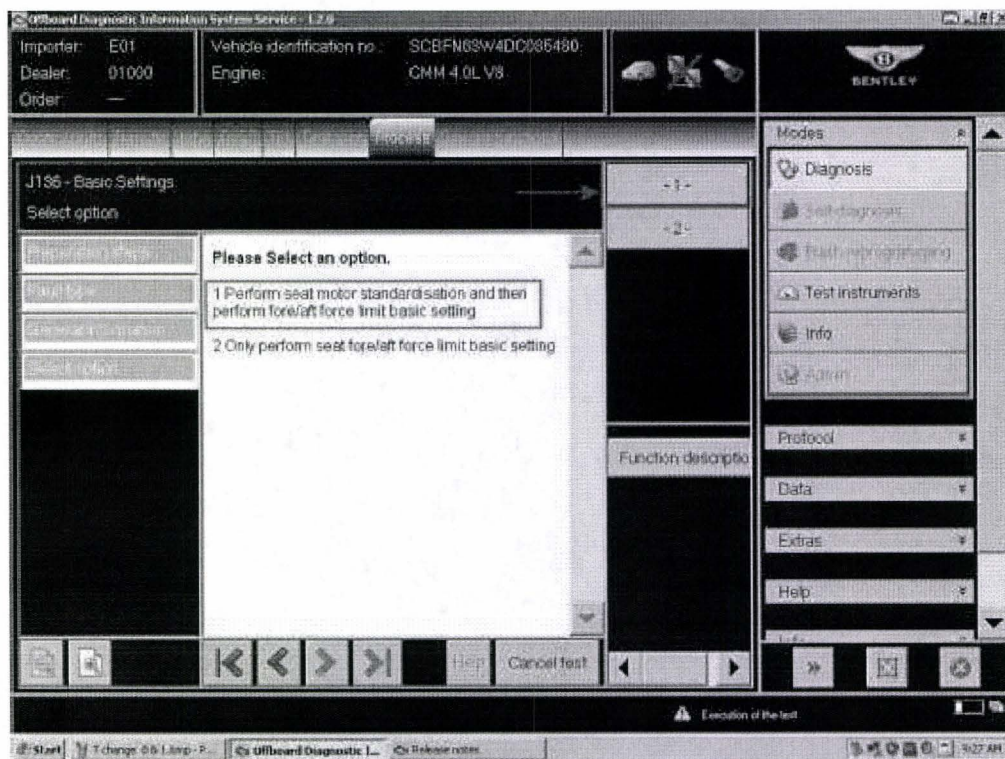

Figure 5
12. Select option 1 (see Figure 5)